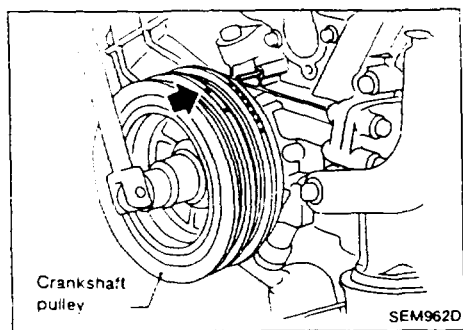

Figure 1
1. Set #1 cylinder on "Top Dead Center" (TDC), Compression Stroke (Figures 1 and 2).